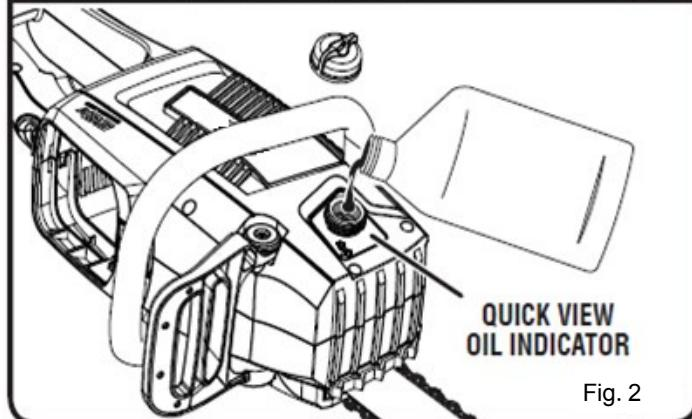

Fig. 2
- NOTE: Remove battery pack from unit. Fill oil tank with bar and chain lubricant (not provided) before starting the chain saw. Failure to lubricate the chain will cause damage to the bar and chain. (Fig 2)**
### CHAIN OILING SYSTEM (Fig 2)